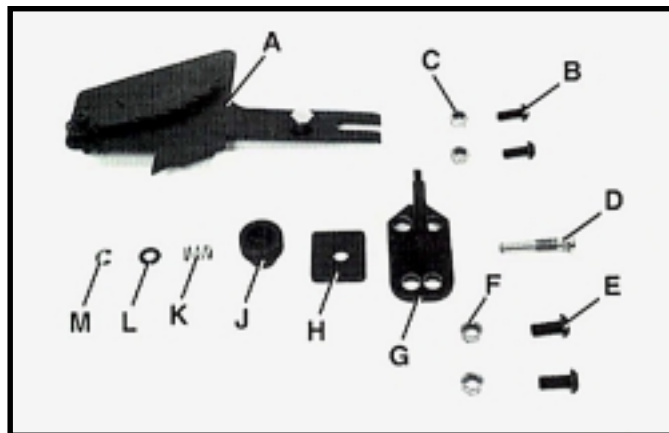

Fig. 11
8. Locate the components shown in Fig. 11, for the splitter assembly.
- B. 1/4-20 x 5/8" button head screws (2)
- C. 1/4" Bushings (2)
- E. 5/16-18 x 5/8" button head screws (2)
- F. 5/16" Bushings (2)